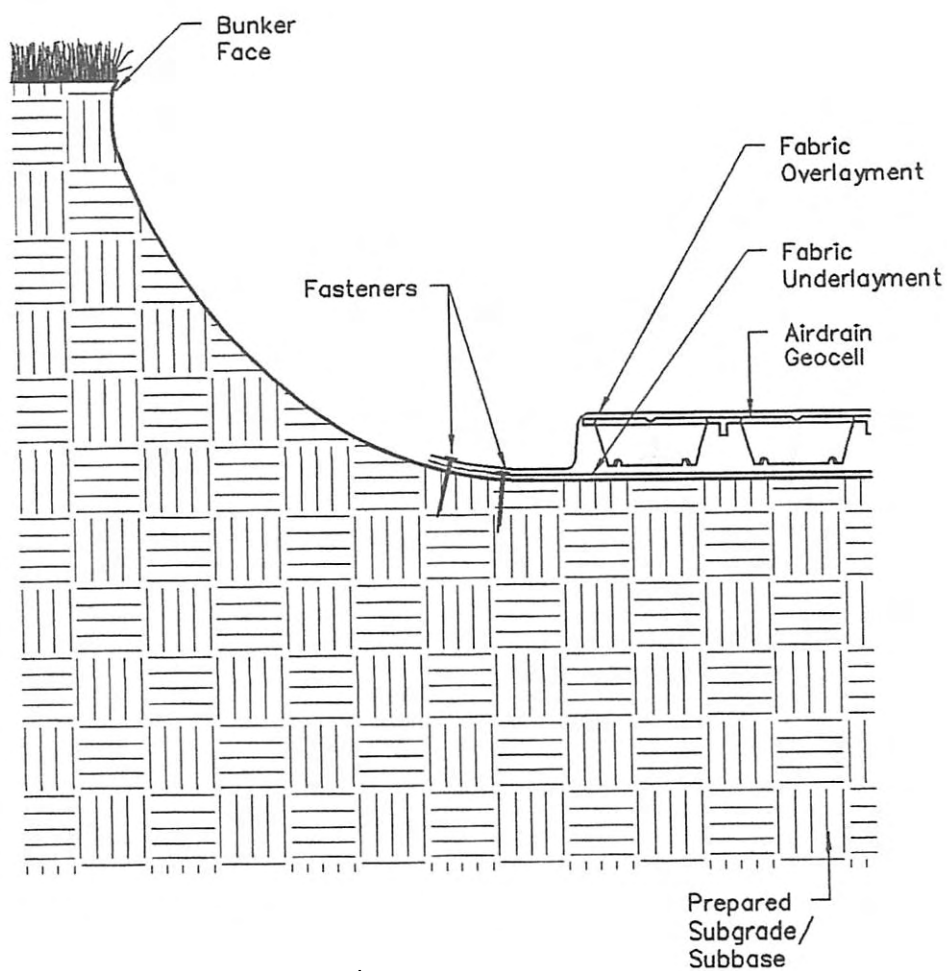

Figure 6
10. Next trim the top layer of filter fabric so that no filter fabric is on the walls of the bunker. After trimming inspect the filter fabric (see Figure 6). The top layer of filter fabric should: